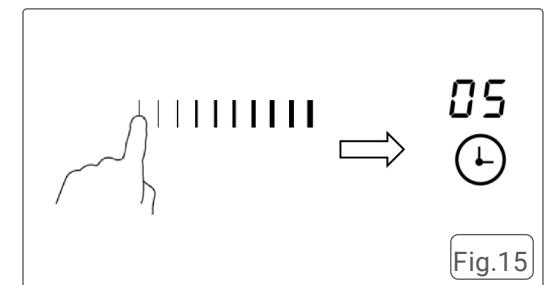

Fig.15
5. Set the desired time by touching the slider control. For example, setting it now will configure the timer for 95 minutes. Fig.15